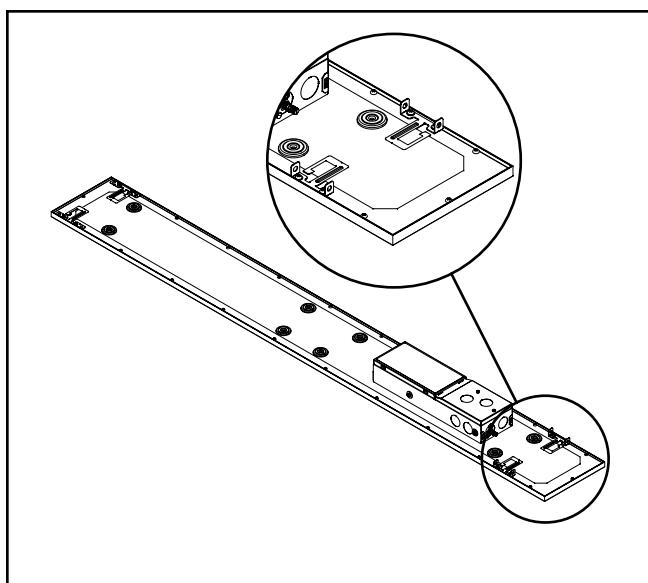

Figure 4.
**Note:** If additional support is desired use cable to support fixture to appropriate support beam above fixture using the circular holes in the grid clip tabs. (Figure 4.)